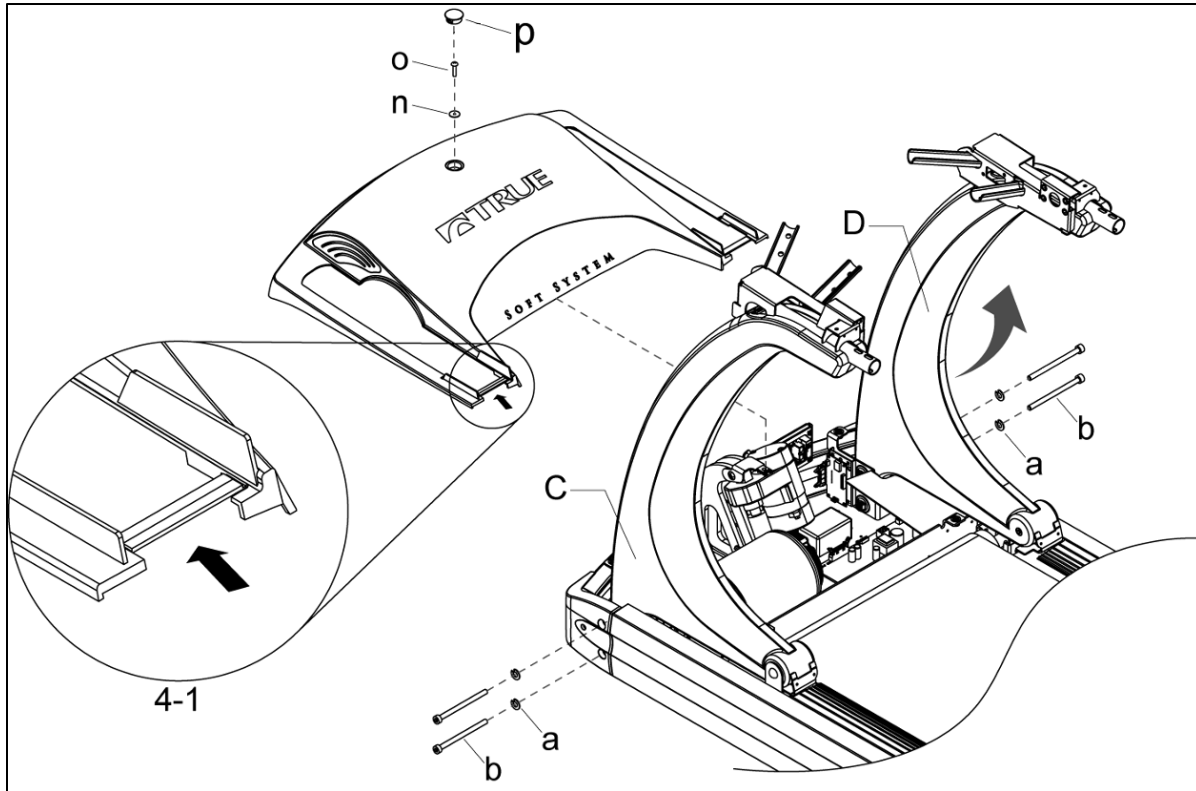

Fig. 4
- a) Rotate Pedestal – R (D) upright as shown in Fig 4.
- b) Using 5/16 inch hex key, install, but **do not tighten**, two per side of Bolt 3/8-16 UNC x 5-1/2 (b) and Washer 3/8 Split (a) into front of Frame as shown in Fig. 4.